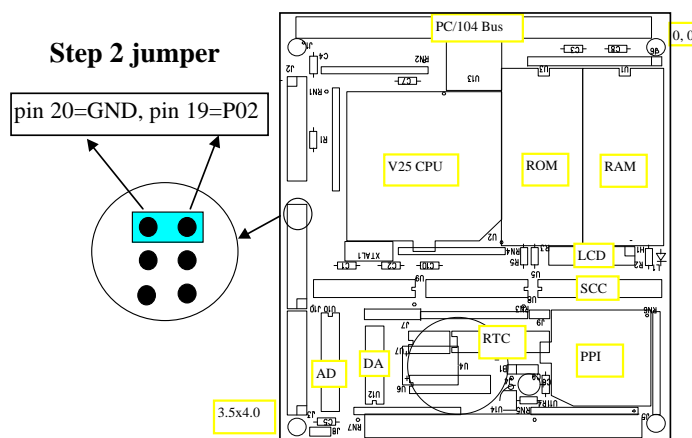

Figure 1.5 Location of Step 2 jumper on the V104
- Set the jumper on J10 pins 19 and 20 on the V104 (Figure 1.5).